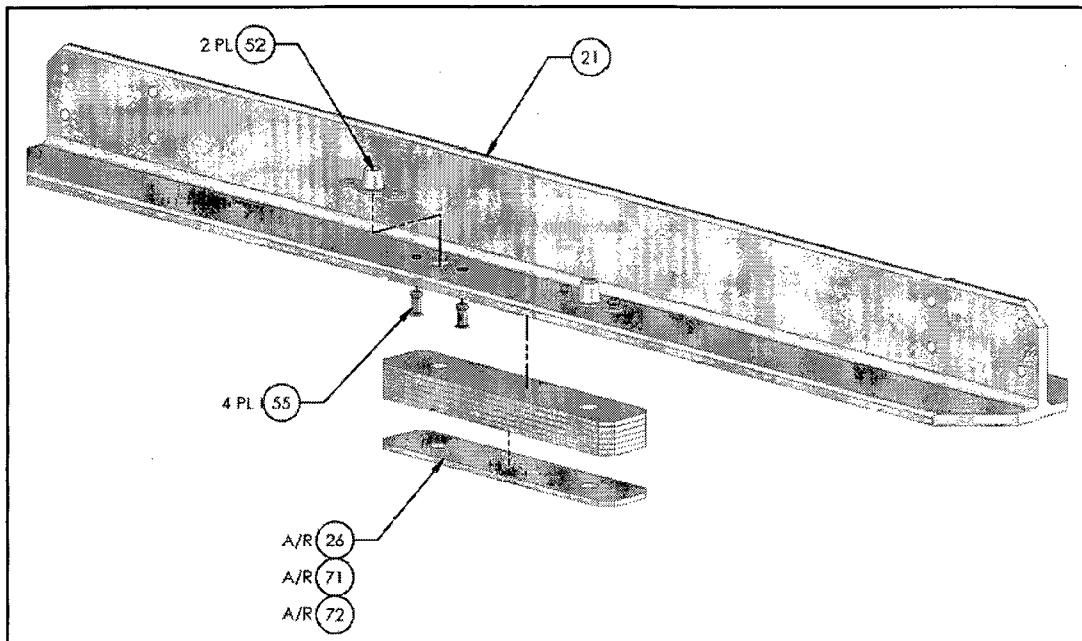

Figure 5.8: Nutplate and Shim Install for Tee
5.16 Uninstall Tee (F/N 21) and Clips from the airframe and install the Nutplates (F/N 52) and Shims (F/N 26) on the Tee, similarly to the Nutplate and Shim installation for the Support Angle, as shown in Figure 5.8.
Parts List for Figure 5.8: